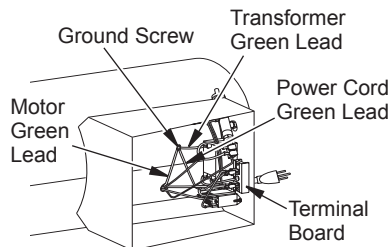

Figure 5 - Location of Ground Screw
2. Access ground screw through underside of heater base. Remove ground screw. Disconnect the green motor wire and the green power cord wire from underside of shell (see Figure 5).
3. Remove black and white motor wires from terminal board (see Figure 5).
16. Turn heater on its side to access opening in bottom of base. Connect green wires from motor, transformer, and power cord to heater shell using ground nut (see Figure 5, page 6).